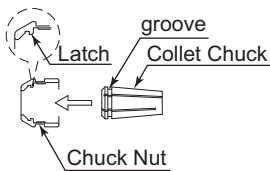
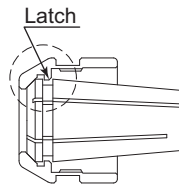
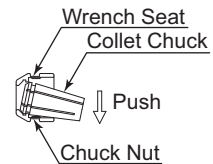
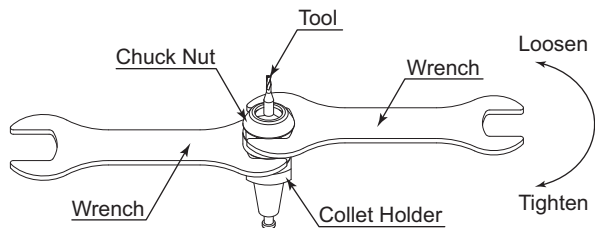

Fig 3
Fig 4
Fig 5
Fig 7
- ① Attach the chuck to the chuck nut. Be sure to fully engage the latch inside the chuck nut to the groove on the collet chucks outer circumference area. (Fig. 3, Fig. 4) (Install the collet chuck in the chuck nut by positioning the collet chuck in the chuck nut and pressing down on flat surface. (Fig. 5))
- ③ Insert the tool in to the collet chuck and position the wrench on the collet holder. Position the wrench on the chuck nut, then tighten the chuck nut by turning clockwise. (Fig. 7)
- ④ When removing the tool, set the wrench on the chuck nut and turn it counterclockwise to loosen the collet chuck and remove the tool. (The first turn will loosen the chuck nut, but the tool will not release and turning will become stiff. Keep turning through the stiffness and the collet chuck will open.)
- ⑤ When removing the collet chuck, the collet chuck and chuck nut are secured by a groove in the collet chuck and a flange in the chuck nut. To remove the collet chuck hold the chuck nut in one hand and push diagonally down on the collet chuck. The collet chuck should be released. (Fig. 5).